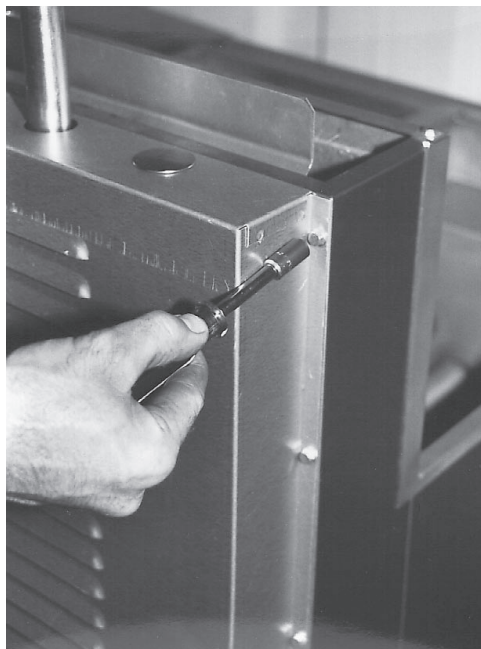

Fig. 56
4. Remove (14) screws from the upper back of the basket assembly using a 1/4" socket. (Fig. 56)